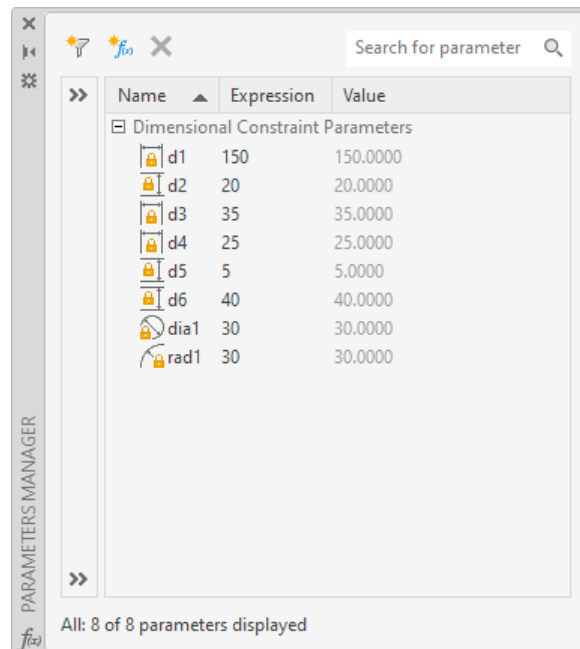

Figure 1-31 The **PARAMETERS MANAGER** palette after applying all dimensions
10. Choose the **Parameters Manager** button from the **Manage** panel; the **PARAMETERS MANAGER** palette will be displayed with the names of dimensional constraints and their values, as shown in Figure 1-31.